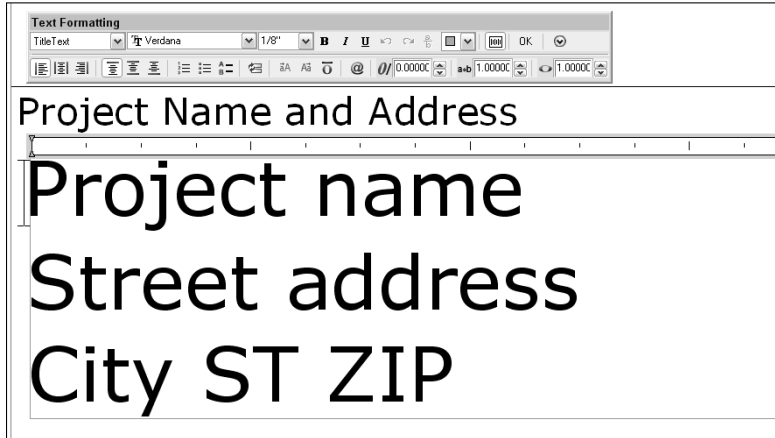

**Figure QS-6:** Editing text for a drawing.
25. Double-click the `Project name` text. The Text Formatting toolbar opens, along with a ruler, as shown in Figure QS-6.